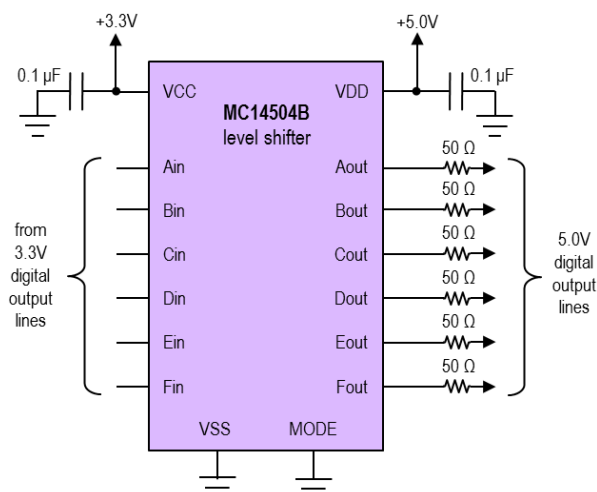

Figure 1. Digital level shifter circuit to convert 3.3V logic signals to 5.0V logic signals.
A circuit for scaling these 3.3V signals to 5.0V signals is shown in Figure 1 on the following page. The circuit uses an MC14504B level shifter integrated circuit (IC) that contains six digital voltage translator circuits. The input pins (**Ain – Fin**) receive digital signals operating on a voltage scale defined by the **VCC** power pin. These signals are shifted to the voltage scale defined by the **VDD** power pin and appear on the output pins (**Aout – Fout**). It is recommended that 0.1 μF capacitors to ground be placed close to the power pins to supply rapid currents when switching occurs.
The input resistance of this circuit is approximately 10 k Ω , so it will draw 0.5 mA when driven with a “high” 5.0V logic signal. If this current draw cannot be tolerated, a downward level shifter can be built using the MC14504B chip shown in Figure 1, but reversing the voltages on the **VCC** and **VDD** pins. The MC14504B chip introduces a delay of approximately 350 ns to digital signals in this configuration; faster level-shifter chips are available from many companies.